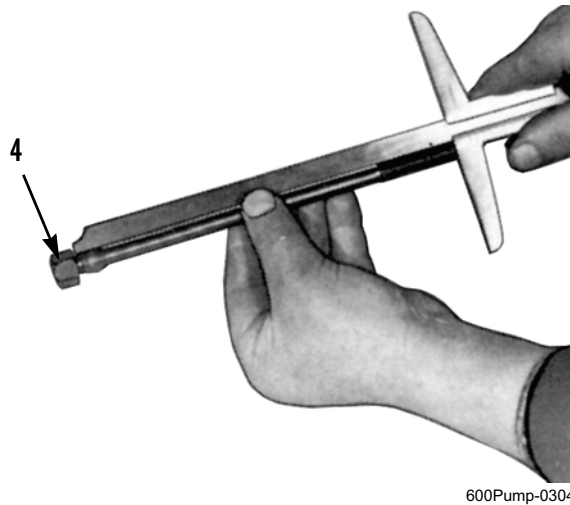

Figure 11. Measuring Cylinder Head Bolts.
2. Measure cylinder head bolts (Figure 11, Item 4). If bolt length exceeds 8.6 in. (218.5 mm), discard bolts.